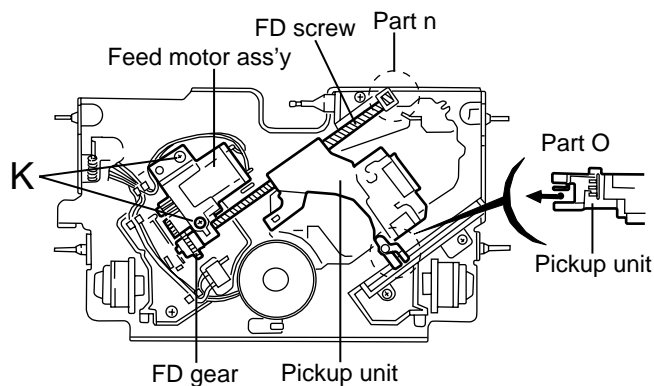

Fig.10
■ Removing the feed motor ass'y (See Fig.10)
■ Removing the pickup unit (See Fig.10 and 11)